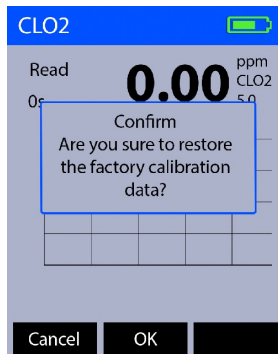

Figure 16.
3. Press **OK** (). The display updates as shown in Figure 16.